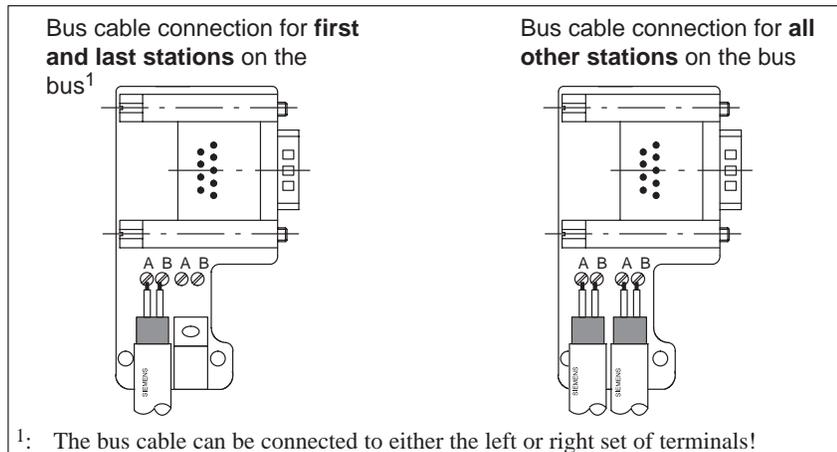

Figure 5-7 Connecting bus cable to bus connectors with order number 6ES7 972-0B.10 ...
3. Insert the green and red conductors in the screw terminals as shown in Fig. 5-7.
5. Connect the bus cable as shown in Fig. 5-7, step 1